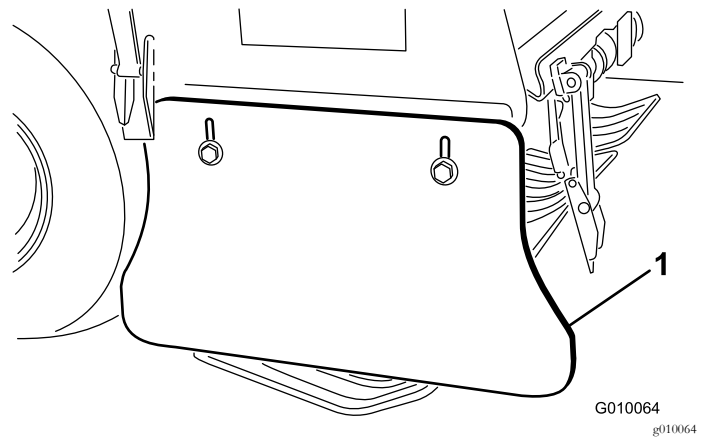

Figure 62
2. Loosen the bolts and nuts securing the side shield to frame (Figure 62).